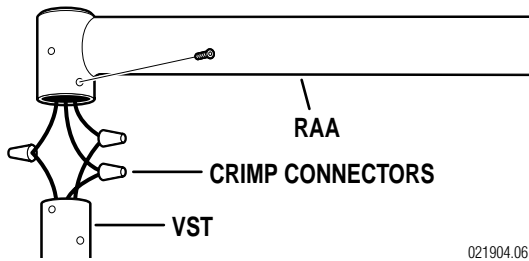

Figure 4. VST to RAA Installation
b. Observe the wire colors and connect the wires from the radial arm to the corresponding BOM/VST wires using crimp connectors. See figure 4.